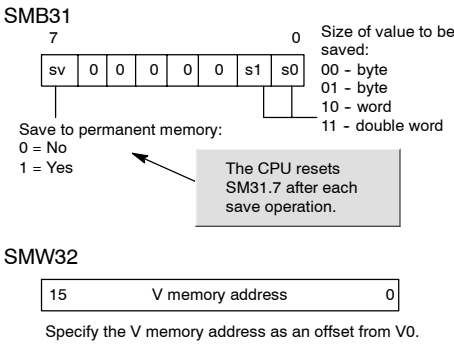

Figure 4-16 SMB31 and SMW32
Special Memory Byte 31 (SMB31) commands the S7-200 to copy a value in V memory to the V memory area of permanent memory. Special Memory Word 32 (SMW32) stores the address location of the value that is to be copied. Figure 4-16 shows the format of SMB31 and SMW32.
2. Load the size of the data in SM31.0 and SM31.1, as shown in Figure 4-16.